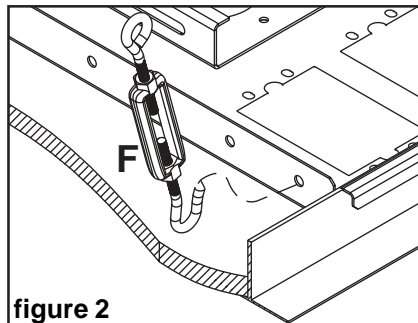

figure 2
4 Snap escutcheon ring (M) around flush mount tube or extension column and slide up until flush with ceiling tile. Hook turnbuckles (F) into ceiling tray (A) as shown in **figure 2**. Hook turnbuckles through ceiling tray (A) where indicated by black rectangles in illustration below.